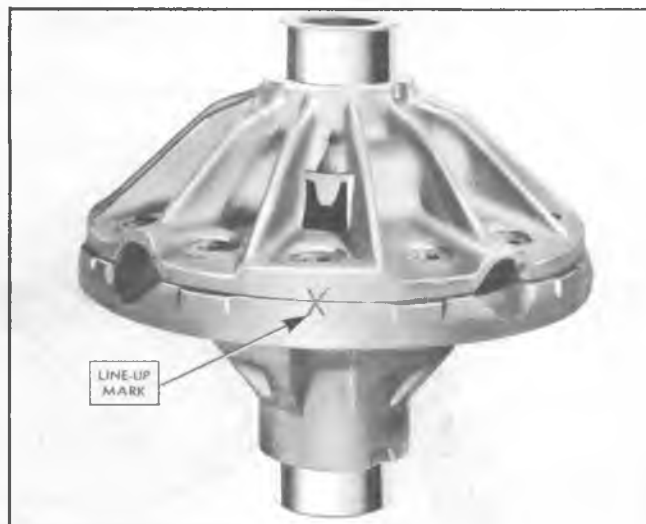

Fig. 10F--Differential Case Line-Up Marks
1. Check differential case to make sure that the two halves are marked so they may be reassembled in same relation. See Figure 10F.
1. Chisel or punch alignment marks on differential case. See Figure 10F.